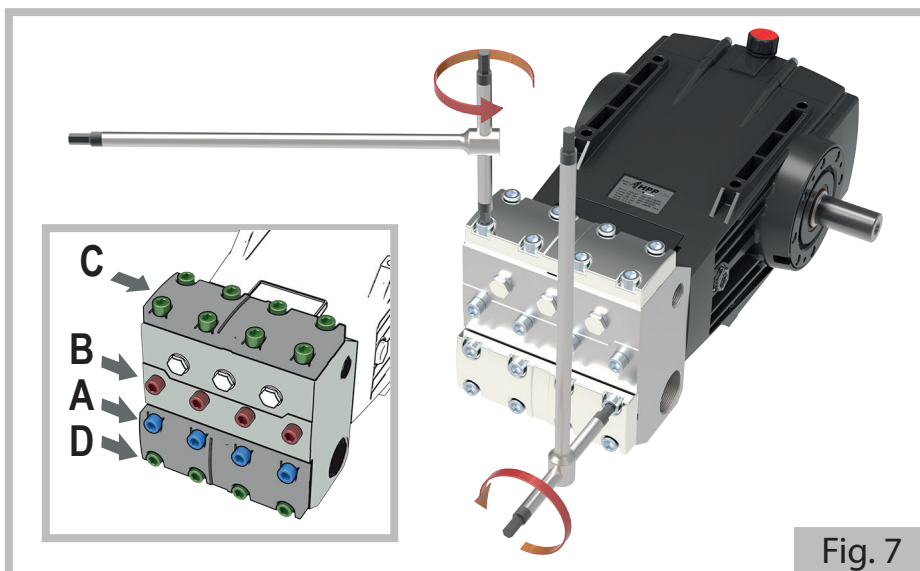

Fig. 7
- a) Remove the two valve caps (1) from the head (3) by loosening the screws **A-C-D** (see detail in figure 7) with a 12 mm Allen key, as follows:
- remove the two valve caps (1)